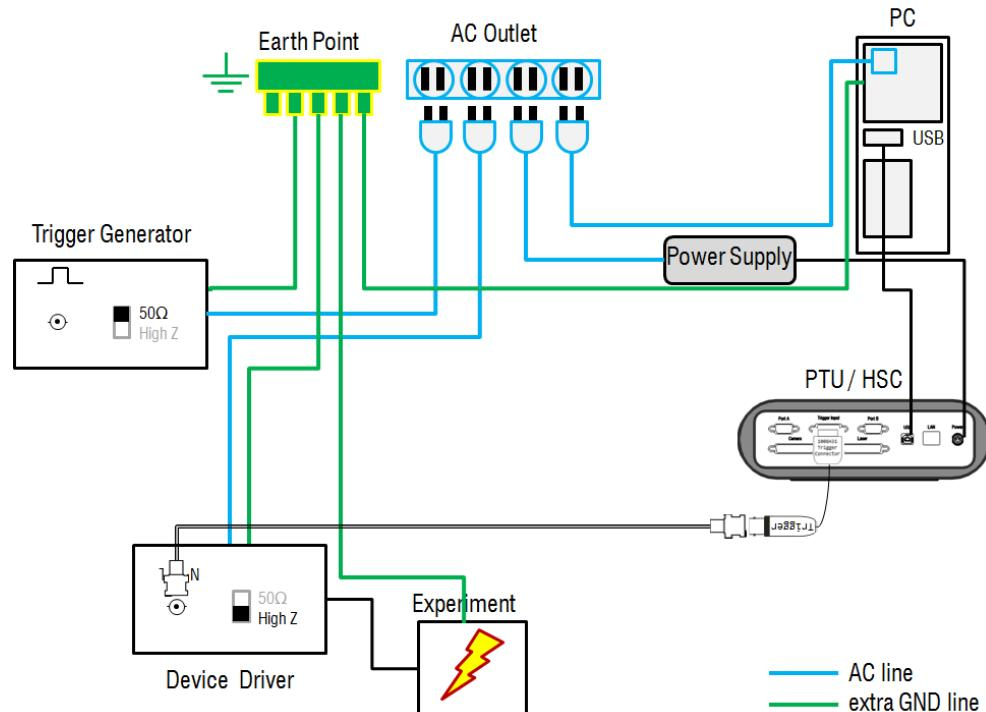
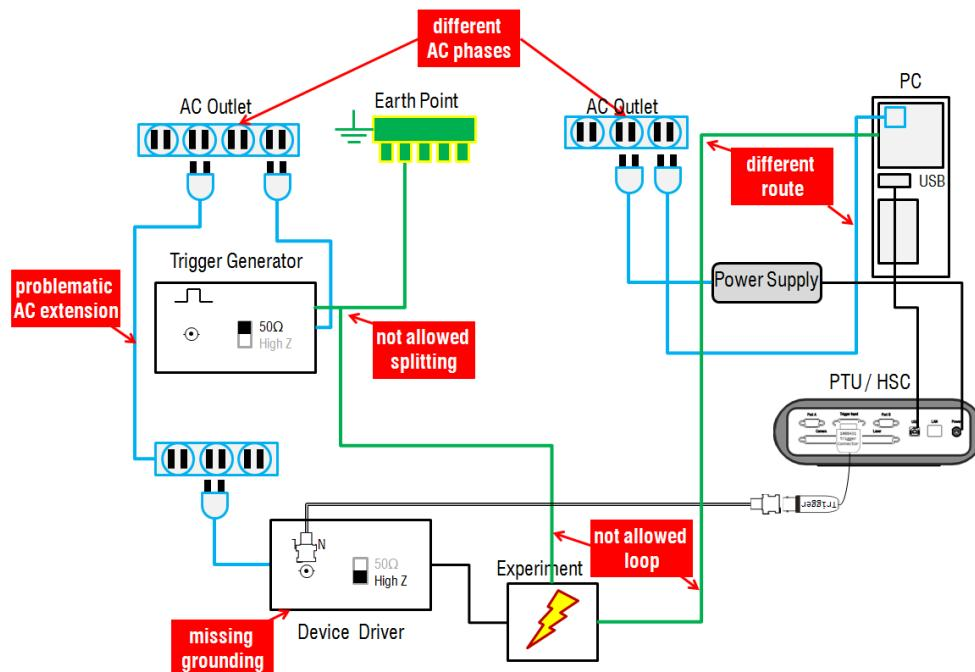

Figure 2.19: Optimized Routing with a star-type earth line layout small areas covered by lines
Figure 2.20: Wrong routing with branches in the grounding system, AC extensions, and large areas between lines
- Apply extra earth lines, but route them as a star to a single point (see Fig. 2.19). Avoid branches and loops with earth lines (as in fig. 2.20). Use high-cross-section cables and low-impedance connectors. These ground lines help to reduce floating signal levels on low voltage TTL signals. The target is to bring all devices connected to the measurement system to the same ground level.